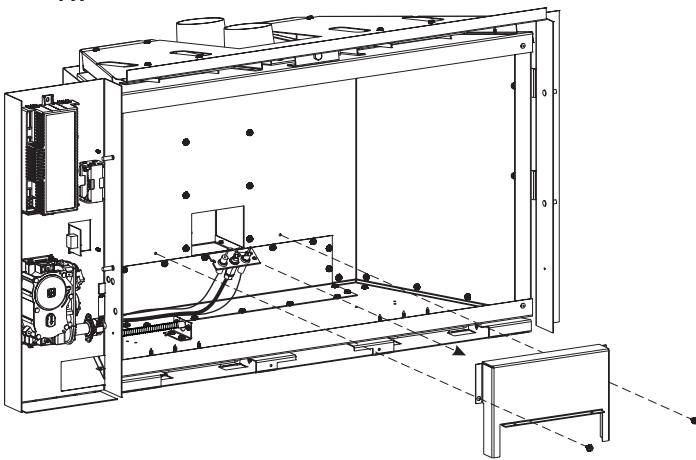

Figure 41
15. Remove the two screws securing the "air box" to the rear of the firebox. Remove the "air box" and set aside. **See Figure 41.**